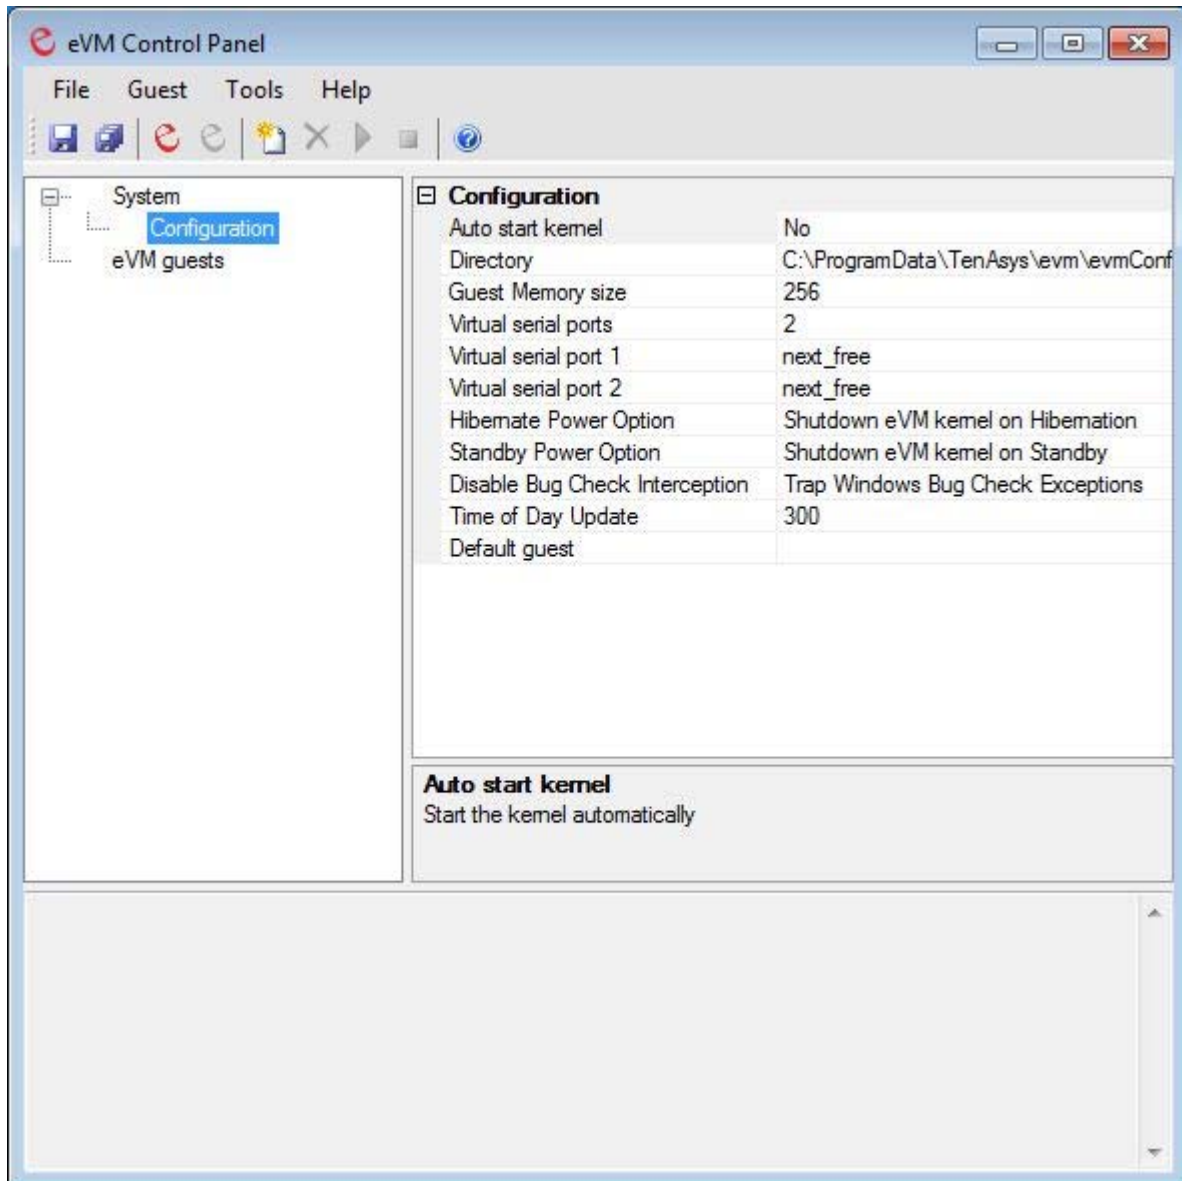

Figure 4.17 - eVM Control Panel with iRMX Guest RTOS Installed
16. When the eVM Control Panel launches, if you chose the *Standard Installation*, you will see the system configuration and no eVM guests installed, Figure 4.17. If you look at the configuration in the right pane, 2 virtual serial ports have been installed with the option of *next_free* selected.